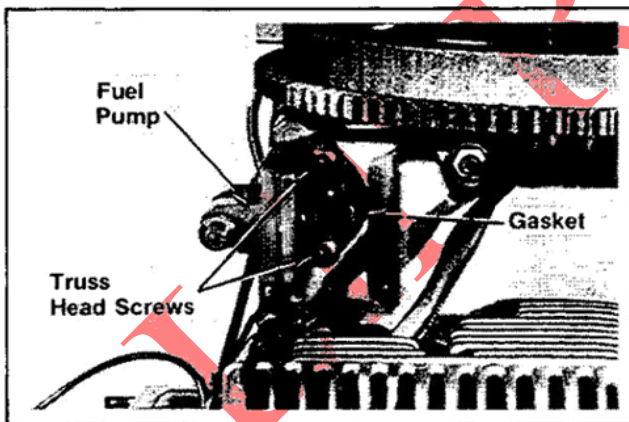

Figure 11-42. Installing Fuel Pump.
1. Install the gasket, fuel pump, and truss head screws. Refer to Figure 11-42.